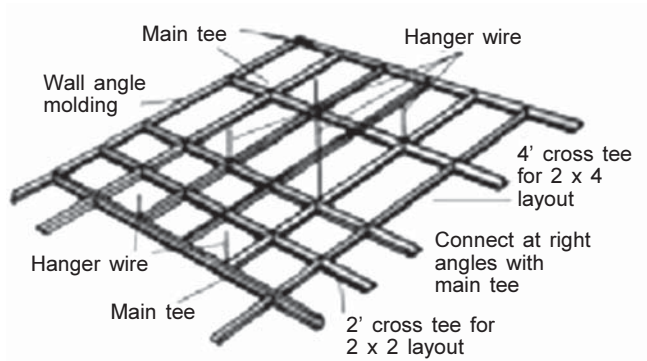

FIG. 12 - The final tee arrangement
- The final main and cross 'T' arrangement will look similar to Fig. 12. The top part of the illustration shows an arrangement of a 600x1200 mm layout, while the lower half shows main and cross 'T's arranged for a 600x600 mm layout.